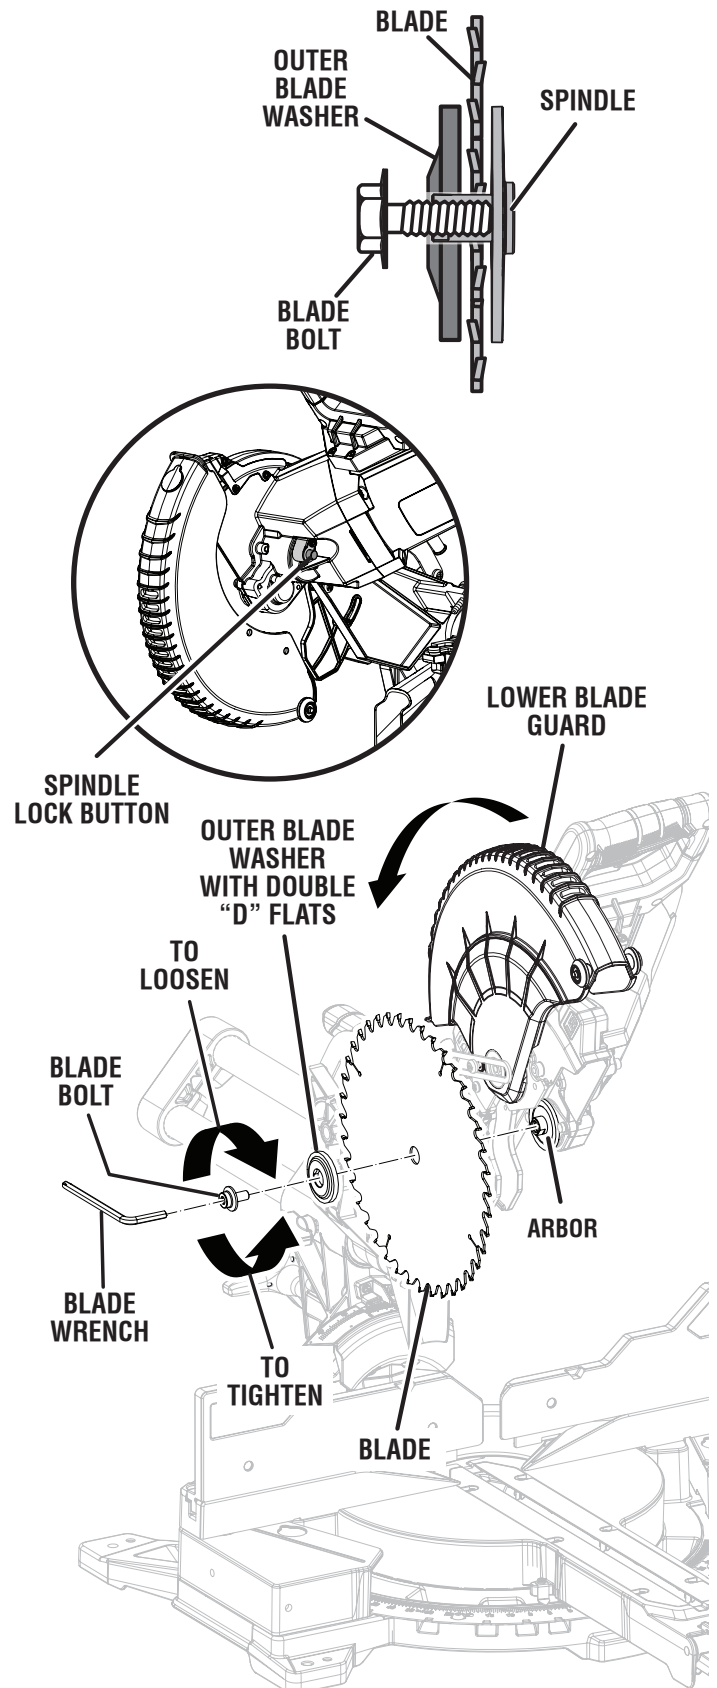

Fig. 14
See Figure 14.
- Fit saw blade inside blade guard and onto the arbor and against the inner blade washer. The blade teeth point downward at the front of saw as shown in figure 14.